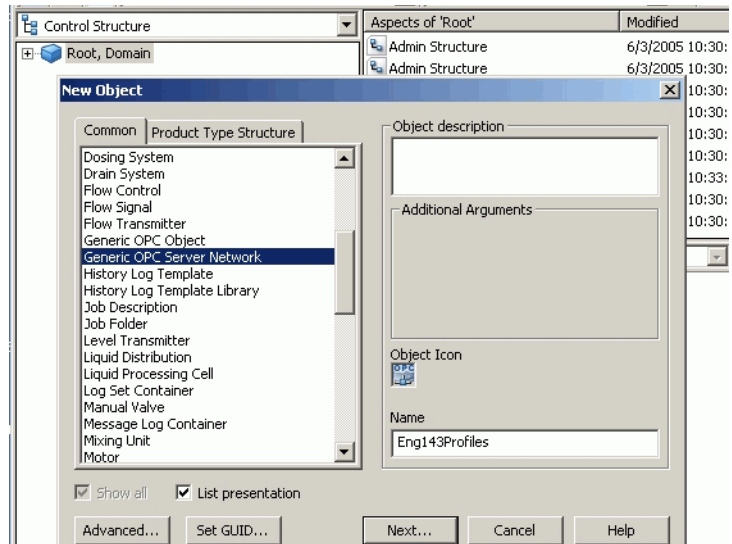

Figure 7. Creating a Generic OPC network
1. Create a Generic OPC Network object in the Control structure, Figure 7, then click **Next**.